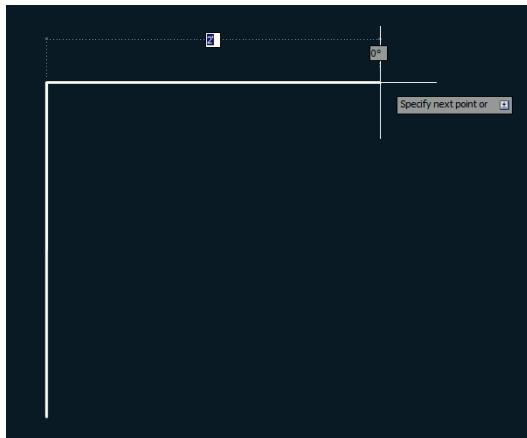

FIGURE 3.4 Using Snap to gauge distances without typing specific measurements
8. Type **L**, and press Enter twice to continue drawing from the last point. Toggle Grid off in the status bar. Move the cursor horizontally to the right from the point at which the rubber band is anchored. Click on the drawing canvas when the dynamic input value reads 2'-0" (or 600 mm), and press Enter as shown in Figure 3.4.